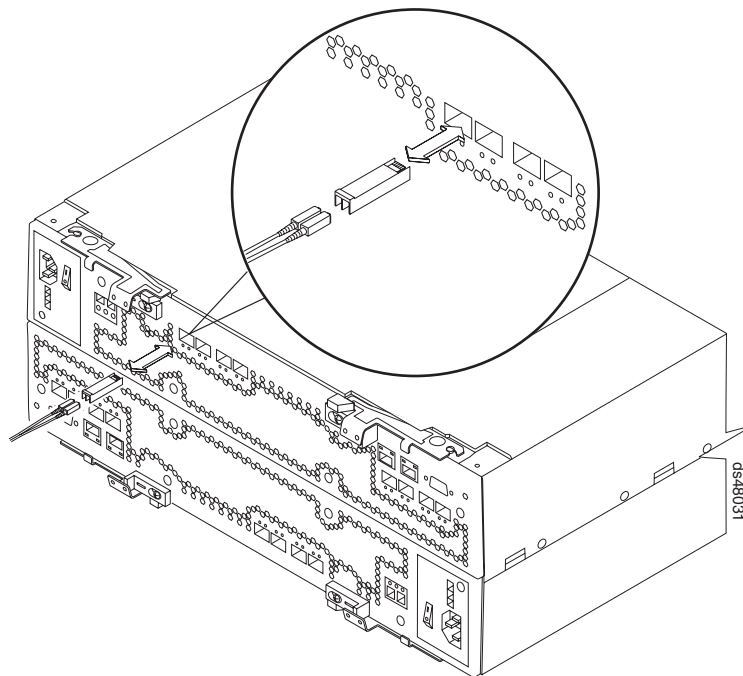

Figure 30. Connecting fiber-optic cable to SFP
2. Connect the fiber-optic cable to the installed SFP, as shown in Figure 30.